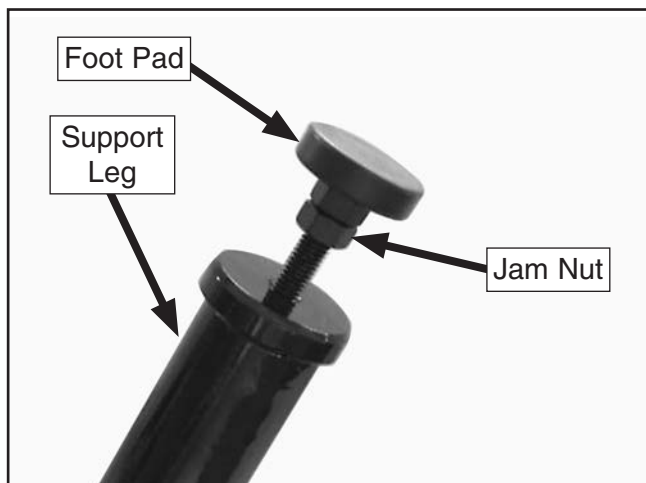

Figure 6. Example of foot pad threaded into the support leg.
3. Thread a foot pad assembly into the bottom of each support leg, as shown in **Figure 6**. For now, do not tighten the jam nuts up to the legs so that you can adjust the height of the legs in a later step.